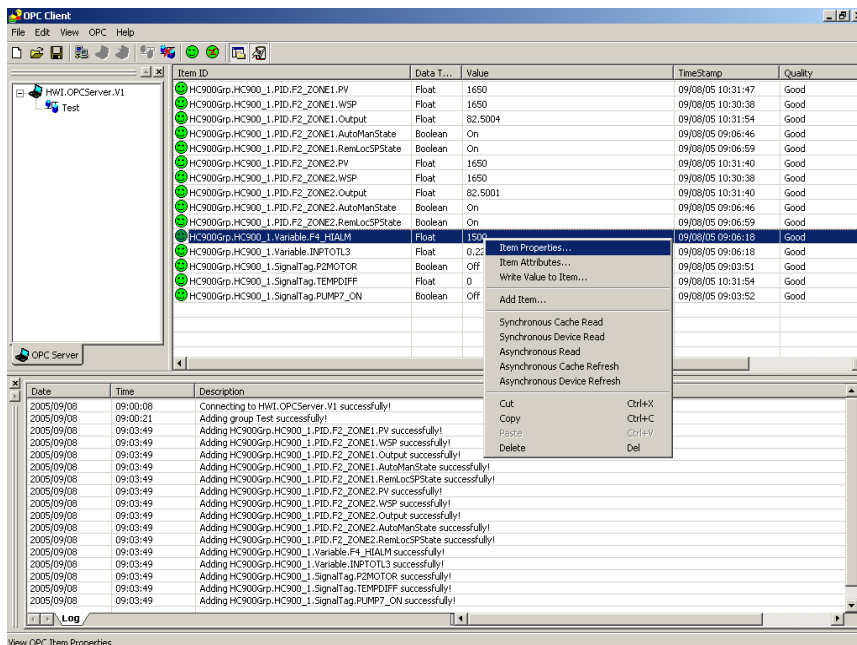

Figure 4 OPC Test Client (VC) – Supports Read/Write Actions
This component contains two OPC test Clients, OPC Client (VC) and OPC Client (VB). See Figure 4.